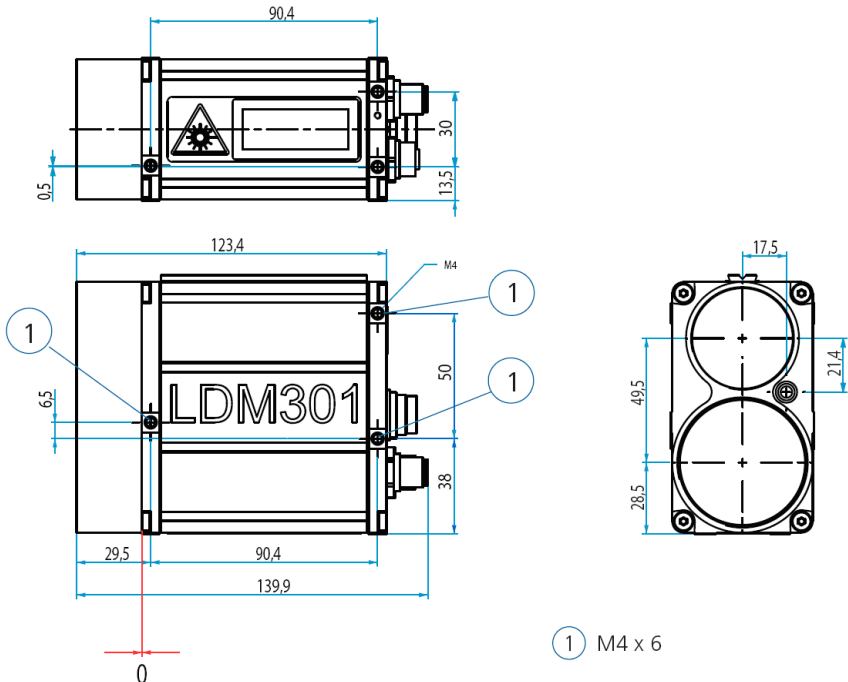

Figure 8 Dimensions and position of the zero point (in mm)
On each lateral side and on the underside of the LDM 301 casing there are three support pads with mounting holes (M4) for mechanical attachment of the LDM 301 (see Figure 8).
1. Attachment to a lateral surface: For attachment to the lateral surfaces, the LDM301 provides three support pads (Figure 8) with mounting holes (M4 x 6).
2. Attachment to casing bottom: Likewise, the LDM301 provides three support pads (Figure 8) with mounting holes (M4 x 6) for attachment to the bottom face of its casing.
The pilot laser (see Figure 8, no. 7) is intended to support alignment to a given target point during start-up action of the LDM 301. It qualifies as a Class 2 Laser device and operates at 635 nm (red) in the visible range. The pilot laser is not aligned to emit in a direction parallel with the measurement Laser. Instead, its beam intersects with that of the measurement Laser at a distance of 75 m.
For interfacing, the LDM 301 provides different connectors depending on the type (see chapter 4.3 Device Types). A main connector port (Figure 8, no. 11) is used for RS232- or RS422-interface and analogue output and additional connectors provide SSI interface (Figure 9, no. 3) or Profibus interface (Figure 9, no. 4, 5).